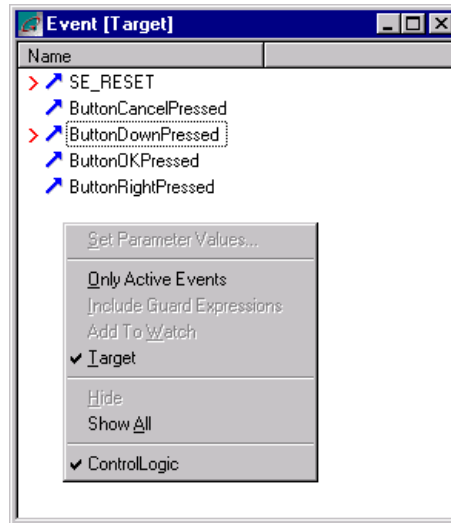

Figure 171: Validator Event window in target mode
The title bars of the windows show which version of the model is shown: Validator model or target model (runtime model). See *Figure 171*, page 221.
- 2 Open the pop-up menu and choose **Target** to toggle the mode, or press ALT + F8. See *Figure 171*, page 221.